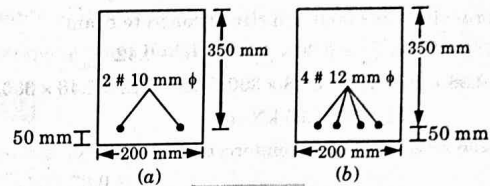

Fig. 1.19.1
5. Reinforcement details are shown in Fig. 1.19.1(a).
3. Reinforcement details are shown in Fig. 1.19.1(b).